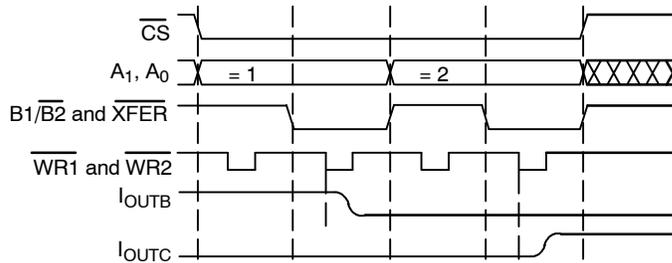

Figure 9. Automatic Transfer to DAC Latches
- 3) Automatic transfer to DAC latches. An 8-bit bus can update any DAC with two cycles by connecting $\overline{WR1} = \overline{WR2}$ and $B1/\overline{B2} = \overline{XFER}$. This is the correct individual DAC update for 8-bit busses (Figure 9.).